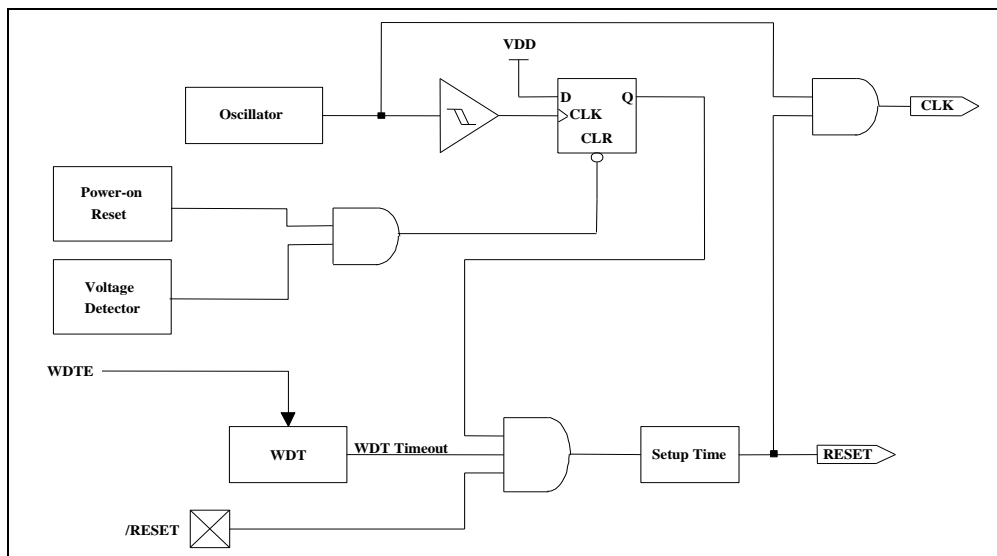

Figure 4-7 Controller Reset Block Diagram
The flag (except ICIF bit) in the Interrupt Status Register (RF) is set regardless of the status of its mask bit or ENI execution. Note that the outcome of RF will be the logic AND of RF and IOCF (refer to Figure 4-7 above). The RETI instruction ends the interrupt routine and enables the global interrupt (execution of ENI).